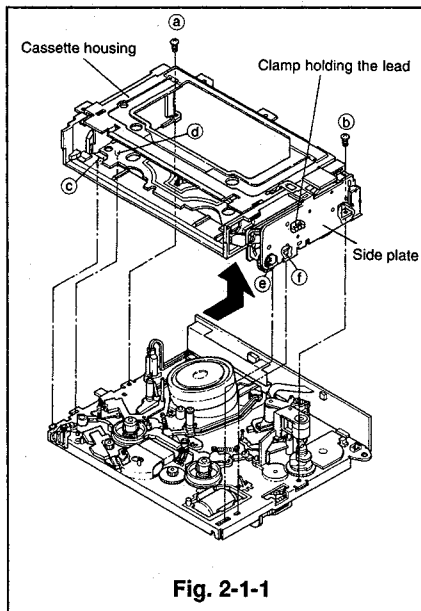
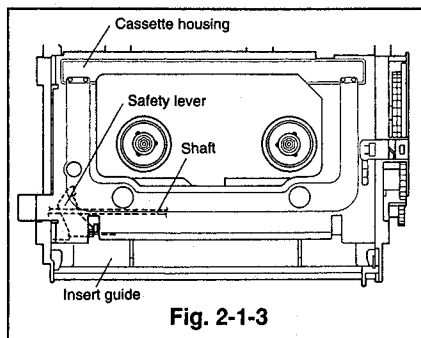

Fig. 2-1-1
Fig. 2-1-3
- ① Set the VCR to the eject mode.
- ② Remove the top cover and the front panel.
- ③ Unfasten the clamp holding the lead of the loading motor, which is attached to the side plate of the cassette housing. Unscrew the two cassette housing fastening screws (a and b). Slowly raise the cassette housing in the direction shown by the arrow. (Refer to Fig. 2-1-1.)
- ③ Slowly lower the cassette housing onto the main plate of the deck.
- ④ Make sure the record safety lever enters between the insert guide of the cassette housing and the shaft as shown in Fig. 2-1-3. Align the four points (c, d, e and f), located on the bottom of the housing with the matching holes in the deck. Secure the cassette housing on the deck with the two screws (a and b). (Refer to Fig. 2-1-1.)